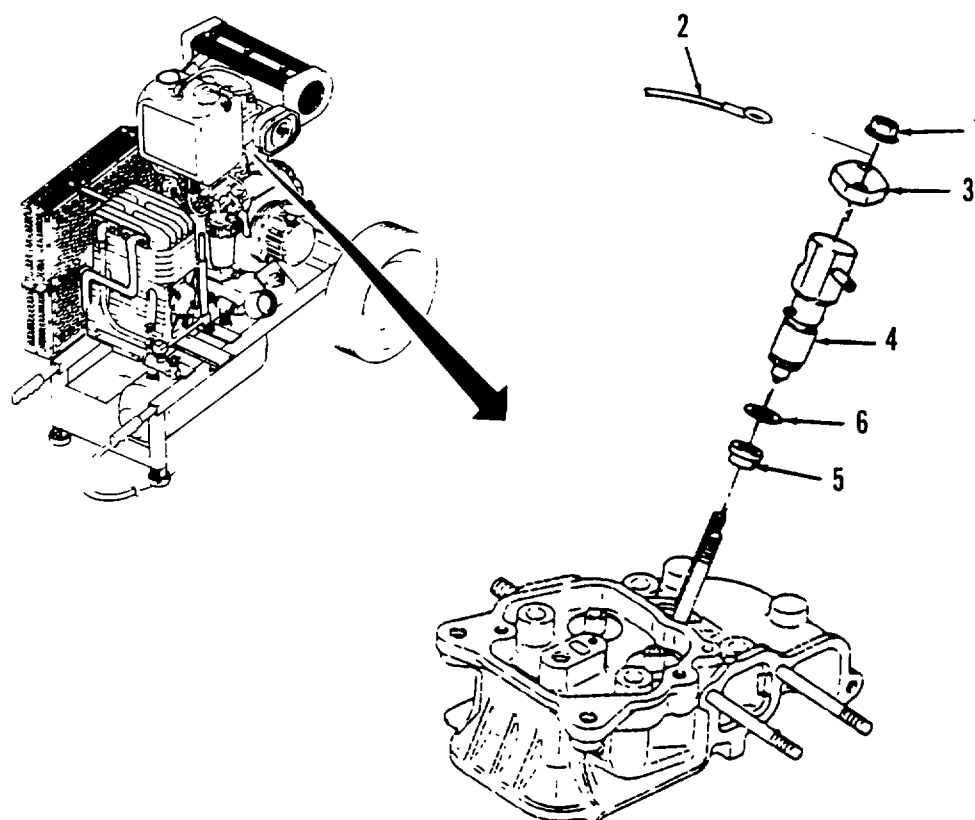

Figure 5-1. Fuel Injector Valve Assembly Replacement.
a. Removal. (Refer to Figure 5-1).